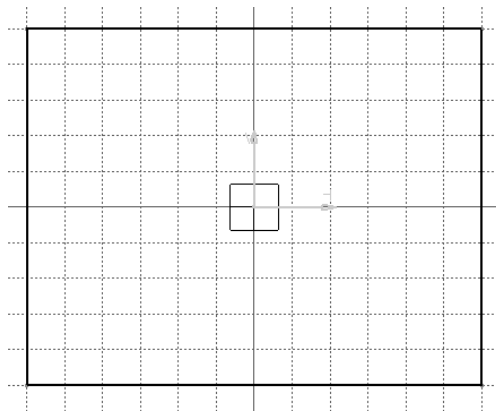

Figure 2-40 The outer loop of the sketch
- b. Draw the sketch of the model using the **Rectangle**, **Profile**, and **Circle** tools, refer to Figures 2-40 through 2-42.
3. Move the cursor to the location whose coordinates are 60, 50 and specify the upper right corner of the rectangle. Figure 2-40 shows the outer loop of the sketch drawn using the **Rectangle** tool.